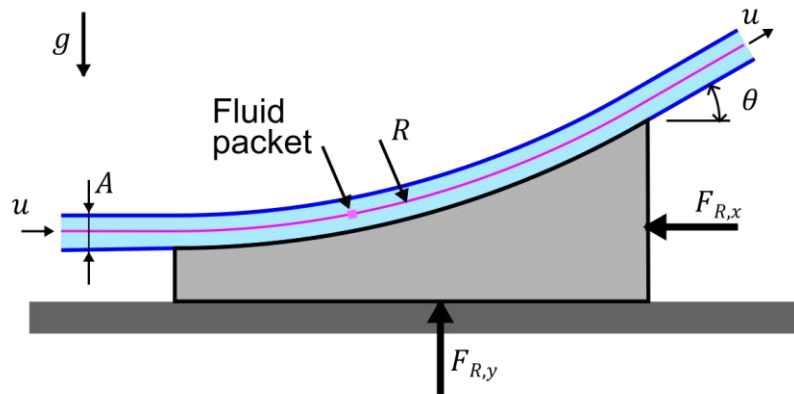

Figure Q2
2. Figure Q2 shows a block resting on a frictionless surface. The curved surface of the block is impacted by a steady jet of water ($\rho = 1000 \text{ kg m}^{-3}$), that follows the curved surface and is deflected upwards. The jet has a cross-sectional area of $A = 0.04 \text{ m}^2$ and a uniform velocity of $u = 4 \text{ m s}^{-1}$. After being deflected by the angle $\theta = 30^\circ$, the jet has the same area and uniform velocity. The total mass of the block and fluid in contact with the block is $m = 50 \text{ kg}$. The block is held stationary by applying the force $F_{R,x}$. The flow is assumed to be inviscid. Gravitational acceleration is $g = 9.81 \text{ m s}^{-2}$.
Consider a small fluid packet (or particle) that travels along the streamline in the centre of the jet (highlighted in Figure Q2, page 8). As it is deflected by the block, it follows a circular path with a radius of curvature $R = 5 \text{ m}$.